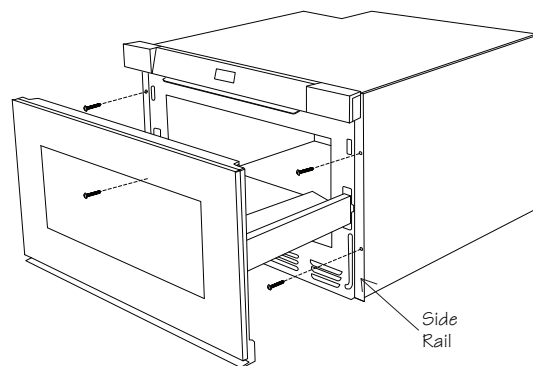

Figure 10
3. Slide the drawer all the way until the mounting flange is flush with the face of the cabinet. See Figure 10.
4. Open the drawer. Using the 4 holes on the drawer as a template, pre-drill the cabinet using a  $\frac{1}{16}$ " bit. See Figure 10.